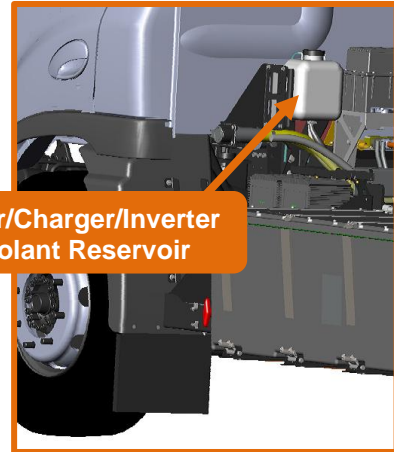

Figure 10.1
- ✓ Check that the coolant level for the drive system meets the "Max Level" mark (Figure 10.1).